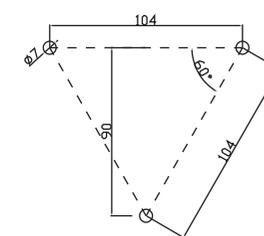

Figure.2
1. Drill three holes, on the surface where the product shall be installed (by centering the electrical connection), on the positions specified in Fig. 2, with a diameter of 7mm and a depth of 35mm